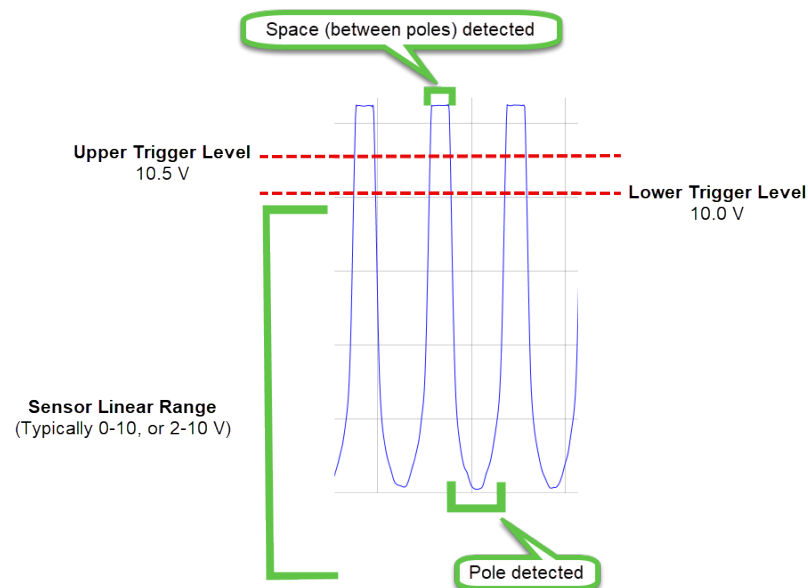

Figure 7-4) Typical Air Gap Sensor Signal
Simulate the Air Gap channel using a function generator (A) and a DC power supply (B) as shown in **Figure 7-5**. The Minimum Air Gap measurement is calculated from the lower portion of the square wave (sensor viewing the pole); and the upper portion of the square wave (sensor viewing the space between the poles) must exceed 10.5 Vdc (see **Figure 7-4**).